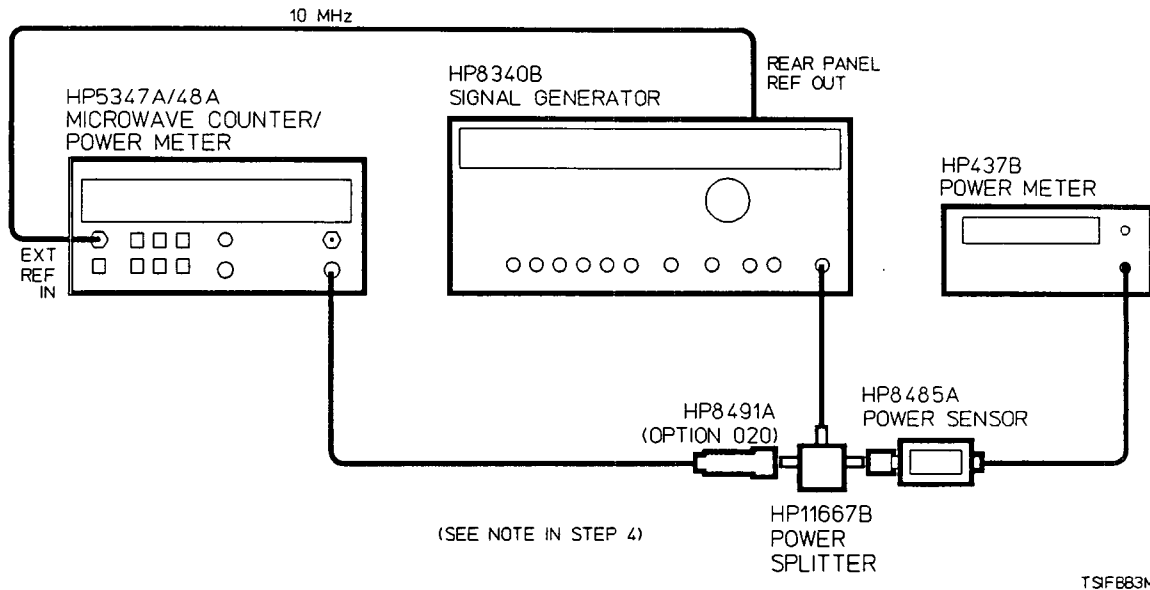

Figure 5-4. IF Bandpass Sensitivity Adjustment Setup
2. Set up the HP 5347A/48A and test equipment as shown in Figure 5-4.